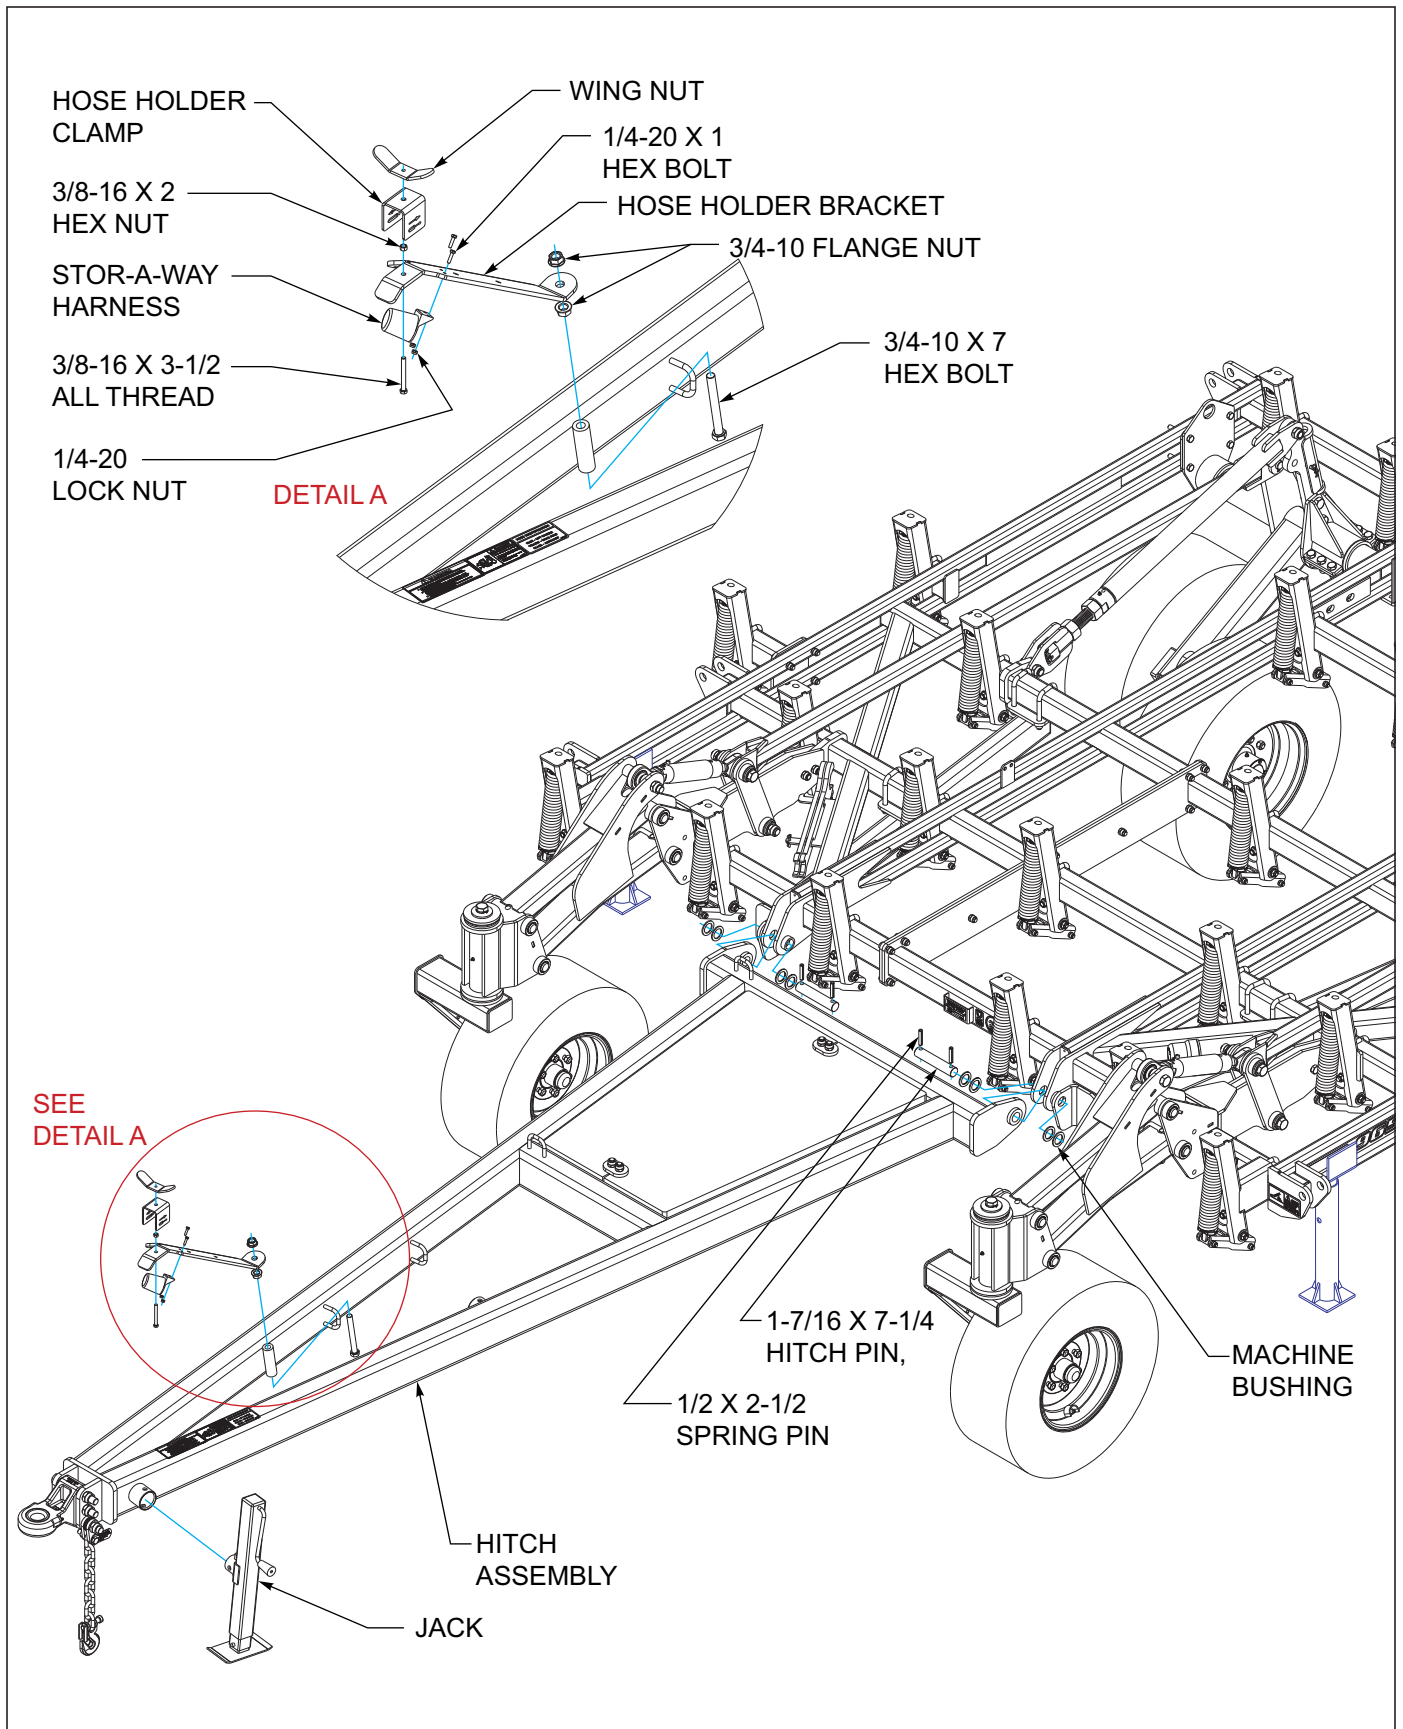

Figure 3-4: Hitch Assembly
1. Connect hitch assembly to the front of the center frame using 1-7/16 x 7-1/4 hitch pin, machine bushings, and 1/2 x 2-1/2 slotted spring pin *See Figure 3-4.*